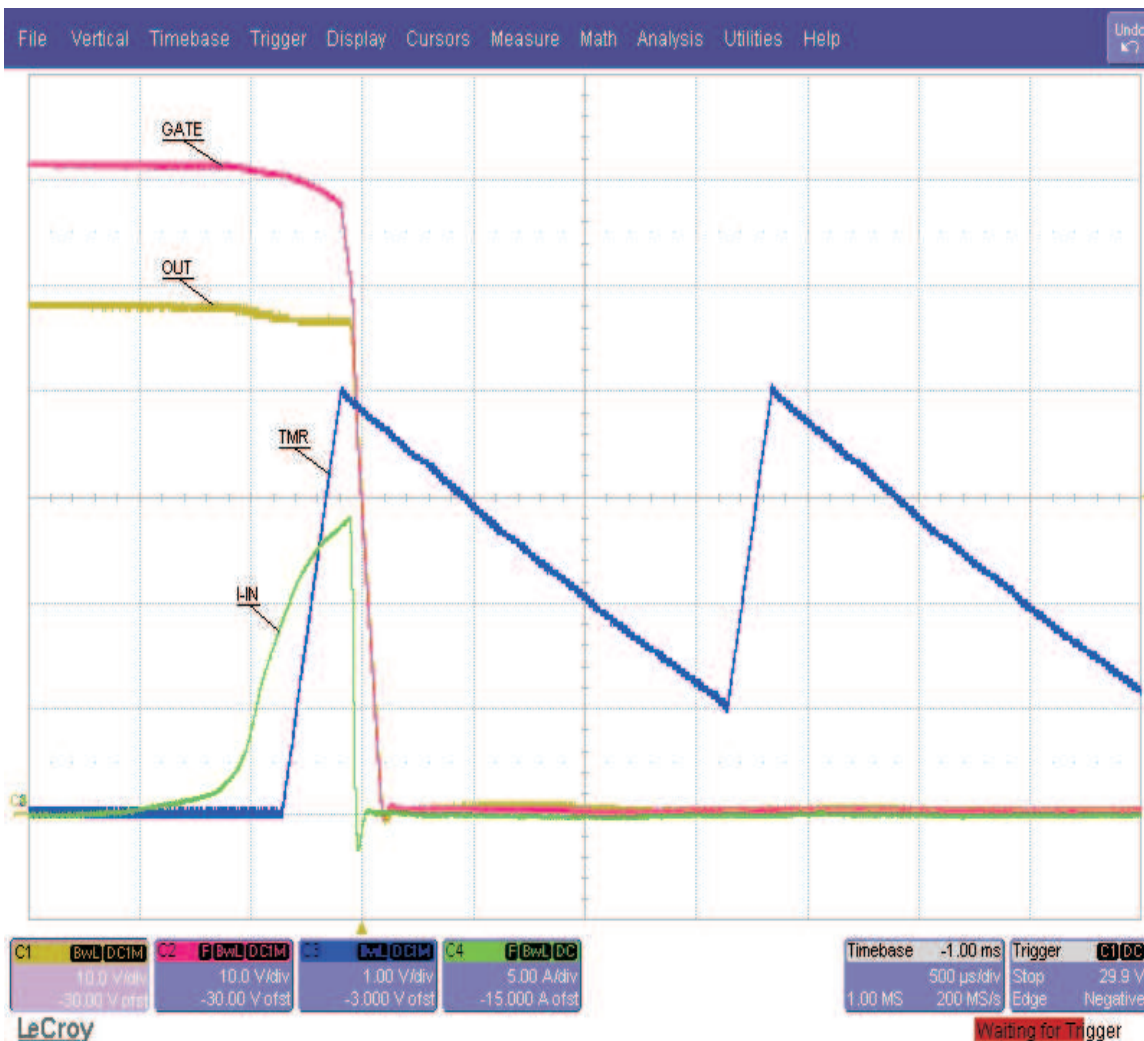

Figure 15. Current Limit Onset
**Response to a Hard Output Short (Figure 14 and Figure 15)**
The TPS2480/81 responds rapidly to the short circuit as seen in Figure 15. The falling OUT voltage is the result of the external FET and  $C_O$  currents through the short circuit impedance. The internal GATE clamp causes the GATE voltage to follow the output voltage down and subsequently limits the negative  $V_{DS}$  to 1.2 V. The rapidly rising fault current overdrives the GATE amplifier causing it to overshoot and rapidly turn the external FET off by sinking current to ground. The external FET slowly turns back on as the GATE amplifier recovers; the external FET then settles to an equilibrium operating point determined by the power limiting circuit.
Minimal input voltage overshoot appears in Figure 15 because a local 100- $\mu$ F bypass capacitor and very short input leads were used. The input voltage would overshoot as the input current abruptly drops in a typical application due to the stored energy in the input distribution inductance. The exact waveforms seen in an application depend upon many factors including parasitics of the voltage distribution, circuit layout, and the short itself.